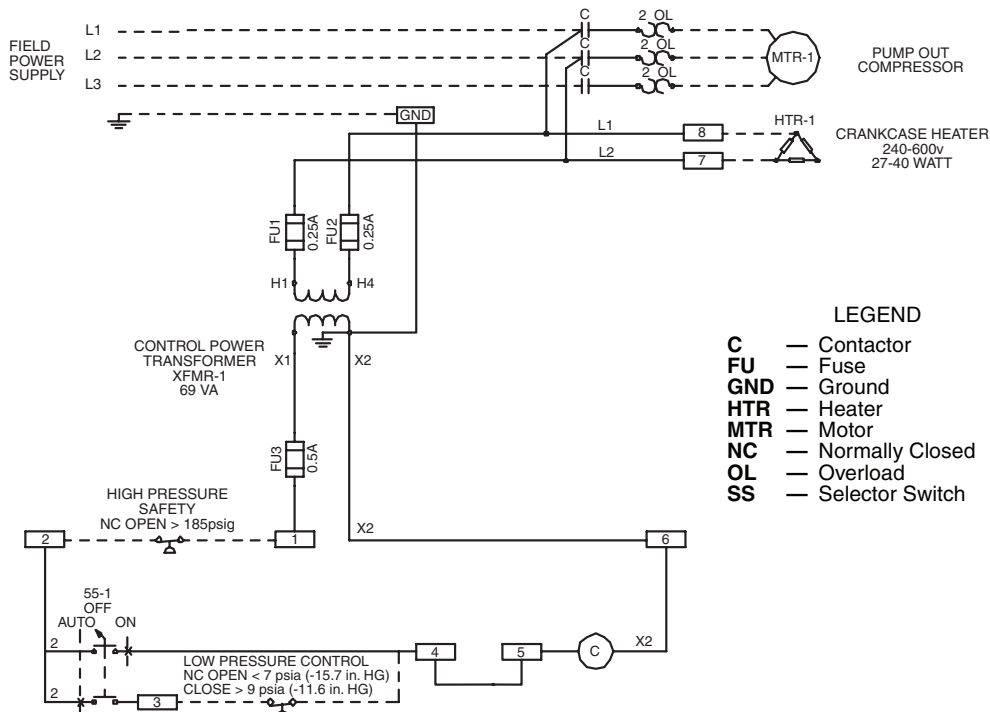

Fig. 41 — 23XRV Pumpout Unit Wiring Schematic
4. Oil should be visible in the pumpout unit compressor sight glass under all operating conditions and during shutdown. If oil is low, add oil as described under Optional Pumpout System Maintenance section, page 78. The pumpout unit control wiring schematic is detailed in Fig. 41.